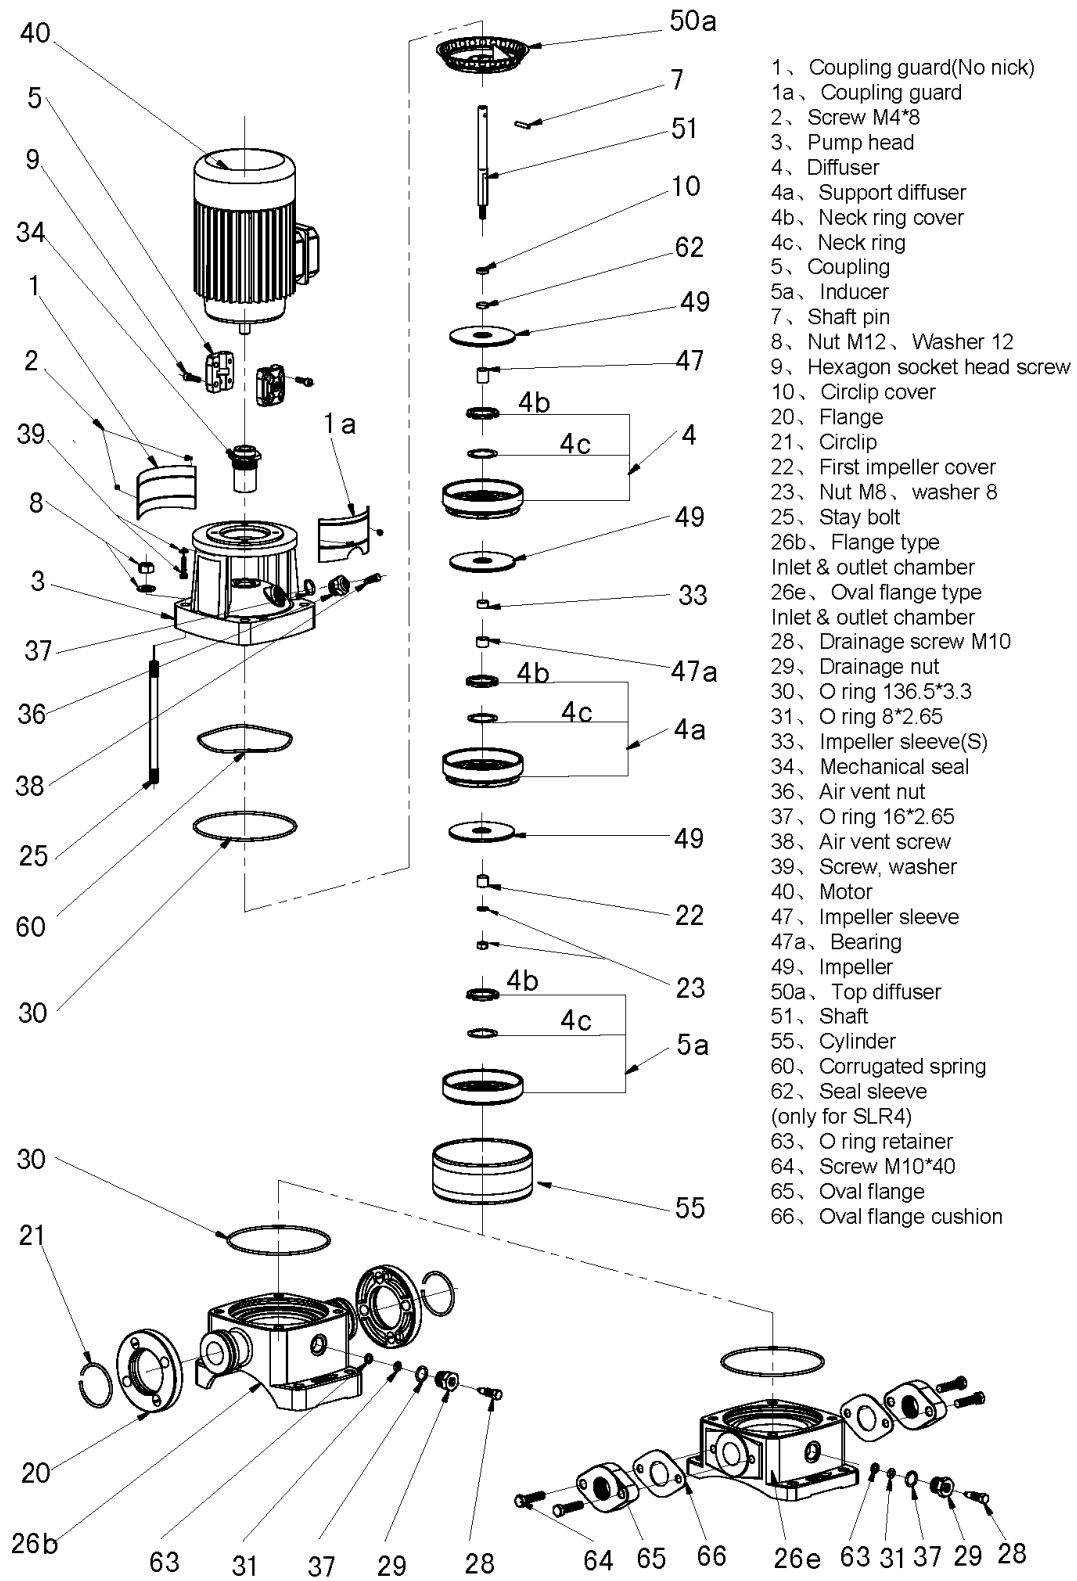

Figure 2. SLR 1, 2, 3 & 4
- The pump is mainly composed of motor, pump head, diffuser, impeller, cylinder, inlet & outlet chamber, pump shaft, mechanical seal and so on. Refer to Figure 2, 3, & 4.